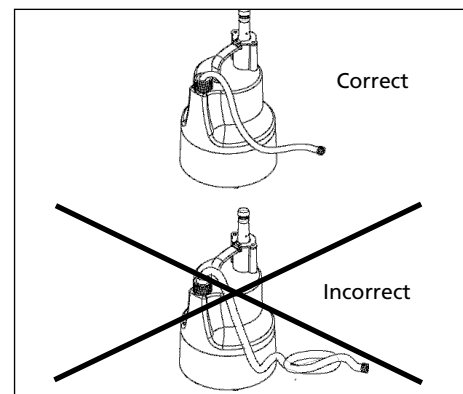

Figure 4
3. For best performance, unwind hose before starting the pump. Remove kinks or bends in the hose to allow unit to pump unrestricted (see Figure 4).